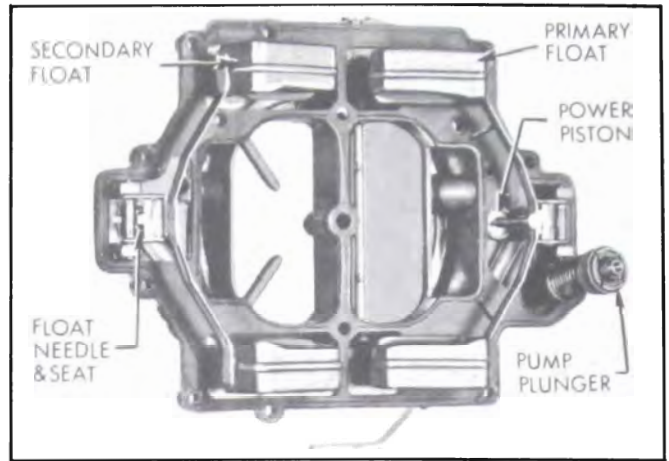

Figure 3-44—Air Horn Parts
5. Remove all air horn screws, then carefully lift air horn straight up from main body to avoid damaging floats, pump plunger, and vacuum power piston which are attached to air horn. See Figure 3-44.
7. Remove float hinge pin, float needle, needle seat, and gasket from side opposite pump (secondary). Then remove needle seat strainer. See Figure 3-44.